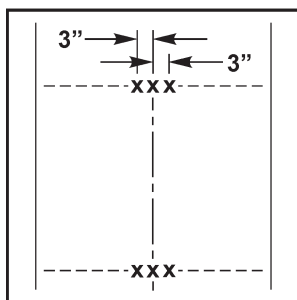

Figure 32
4. Measure and mark 3 inches to the LEFT and 3 inches to the RIGHT of each mark (see Figure 32). (This will create a 6 inch space between the letters. It may be necessary, especially for large legends such as SCHOOL, to use 4 inch spaces between letters. In this case, 2 inches should be substituted for the 3 inches above.)